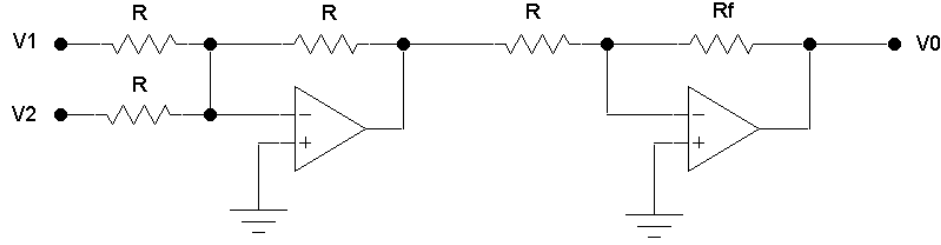

Figure 1.4: Two op-amp solution of $Y = mX + b$
Figure 1.4 shows a two op-amp circuit that can be used to evaluate the equation
[?] Derive the transfer function for the two op-amp circuit of Figure 1.4.
- ① Determine for the circuit of Figure 1.4 the transfer function parameters required to properly display the LM61 output as temperature on the voltmeter.
- ① Build the circuit. Set $V_{CC} = +15\text{ V}$ and $V_{EE} = -15\text{ V}$. Select $R \approx 10\text{k}\Omega$.
- ① Simulate the LM61 output voltage with the PPS. Vary the PPS voltage and verify that the circuit behaves as expected.
- ① Now replace the PPS with the LM61. The LM61 is a three-pin device. With the flat face toward you, connect the left pin to $+5\text{ V}$ and the right pin to 0 V . The centre pin is the output voltage, as described.